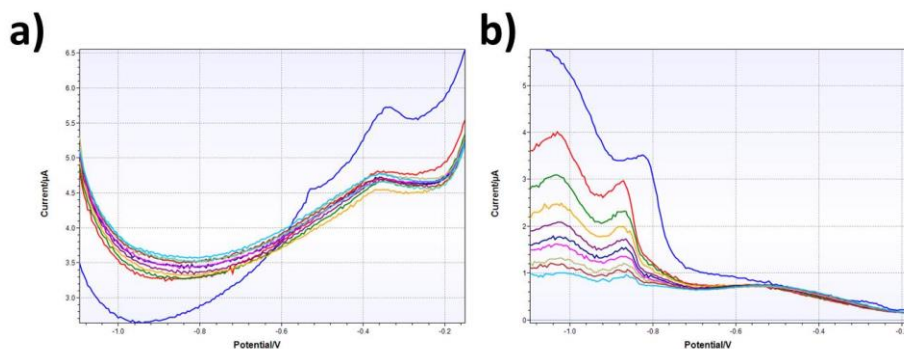

Figure 4.2: typical preparation scans for a IS-HM electrode, curves with shapes of a) and b) have both been observed and lead to functioning mercury films
- Typical scans from the conditioning stage are shown in Figure 4.2. Please, notice that the peaks are decreasing with each scan until they almost vanish completely. When finished rinse the cell and electrode with some 20 mM HCl solution and clean water. The electrode is now ready to use. The polymer containing a mercury salt covering the electrode at the beginning of the preparation is now turned into a mercury film. This is also the reason why the potential should be kept below -0.1 V, otherwise the mercury film might be destroyed.